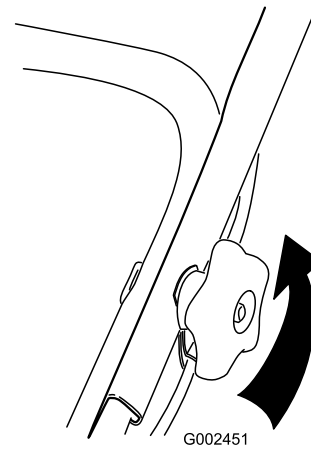

Figure 55
1. Loosen the handle knobs until you can move the upper handle freely (Figure 55).